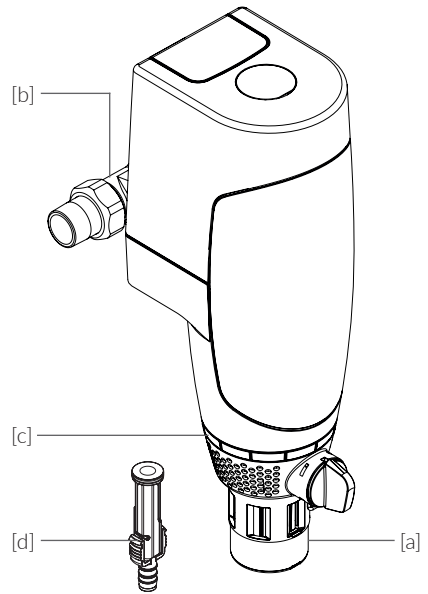

Fig. 5.1
- / Accessories included in scope of delivery: Hose nozzle [d] (Fig. 5.1)
- / Output pressure gauge 0 - 10 bar (Fig. 5.1)
- / Alternatively, the backwash water can also be discharged via a hose. In this case, a hose nozzle is included in the scope of delivery [Fig. 5.1, d].